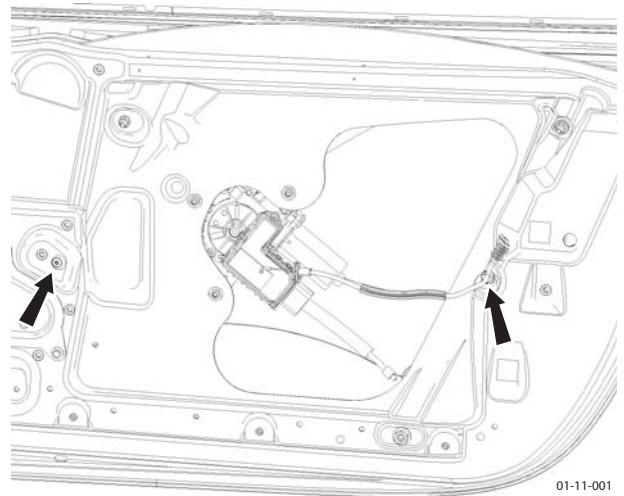

Figure 1
7. Remove clamping bolts (x2) and lift glass out of door (see Figure 1).